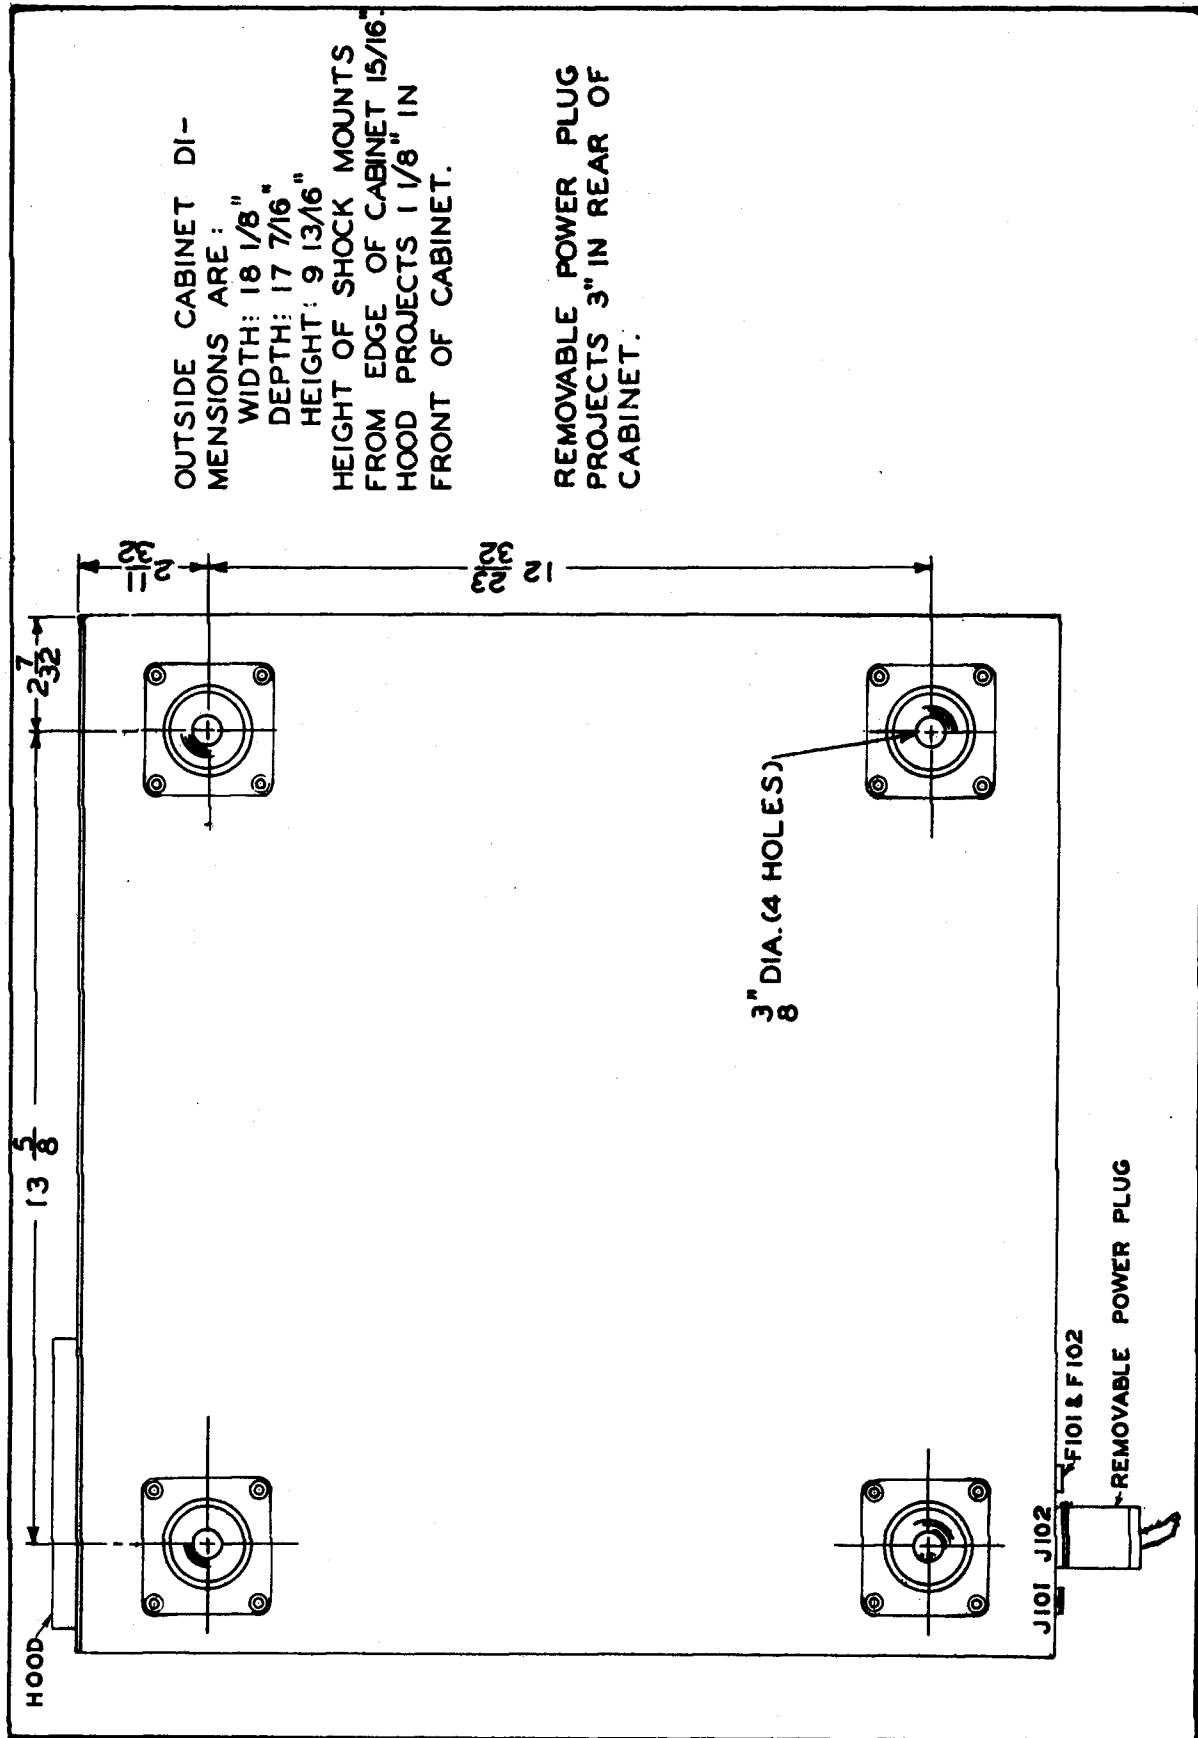

FIGURE 2-4 - Navy Model RDP, Mounting Dimensions
d. Reference can be made to the Installation Drawing (see Section II, Figure 2-4) for all necessary mounting dimensions.